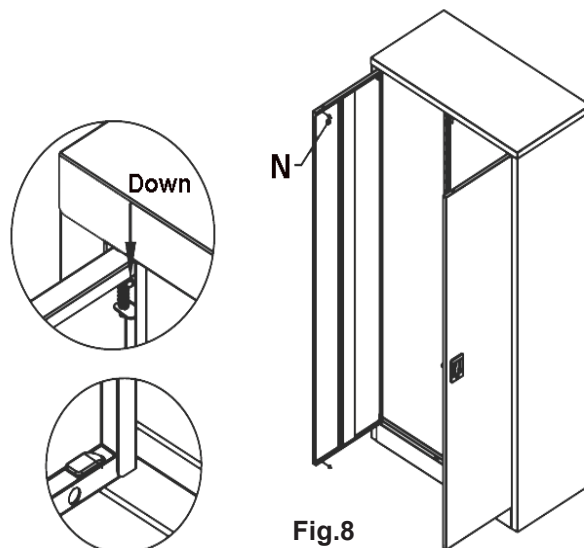

Fig.8
3.8 DOORS ASSEMBLY (Fig.8)
- 3.8.2 Fit the rubber bumpers (N) as shown in Fig.8 to the left hand door.